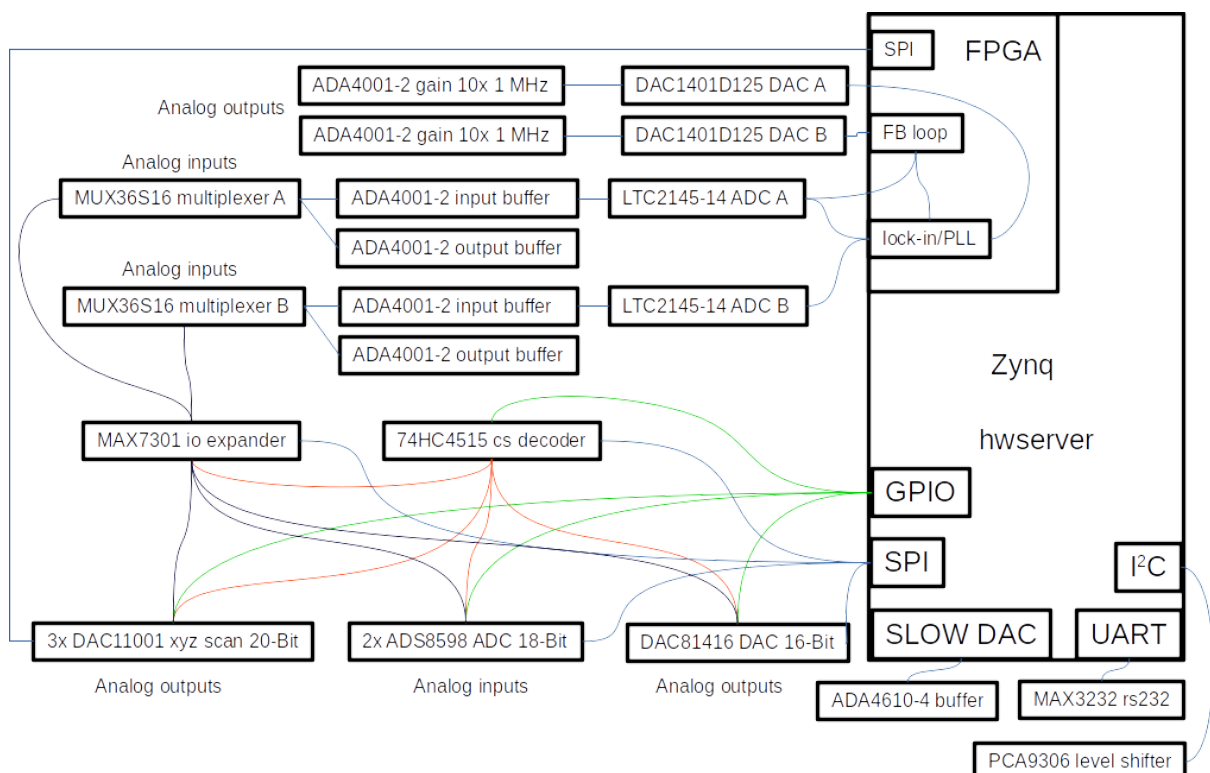

Fig. 1: Block scheme of the DSP
The electronics consists internally of two independent parts: a **feedback loop module** that is implemented in the Red Pitaya (RP) and primarily run on the FPGA (and can run even on a standalone RP, without the rest of electronics) and a **data acquisition and generation framework** that is formed by two electronics boards connected to it via SPI interface and includes 3x 20-bit DAC, 2x 18-bit 8-channel ADC, 1x 16-bit 16-channel DAC and RS232 interface. Block scheme is provided in Fig. 1. All the functionality is controlled by a single C API, that can be located in the gwyhwserver_gwyscope folder in the root directory. For running a Scanning Probe Microscope, also a server is provided, called gwyhwserver, that is supposed to be controlled from some client outside of the RP, connected to it via Ethernet.